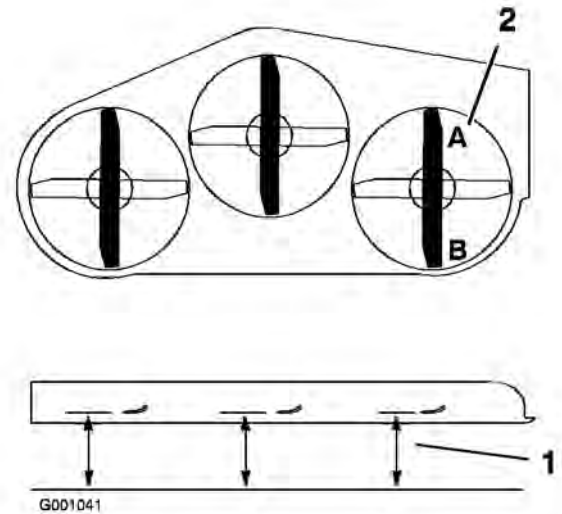

Figure 76
1. Position the right blade front-to-rear (Figure 76).
2. Measure the right blade at the **A** location, from a level surface to the cutting edge of the blade tip (Figure 76).
4. Measure the right blade at the **B** location, from a level surface to the cutting edge of the blade tip (Figure 76).
6. The mower blade should be a 1/4 to 3/8 inch (6 to 10 mm) lower at position **A** than at position **B** (Figure 76). If it is not correct, proceed to the following steps.